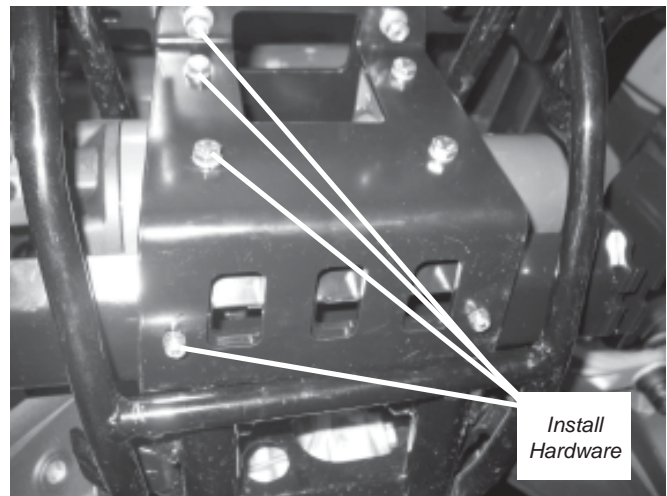

Figure 4
- Once winch and plow mount are inside vehicle frame, as shown in Figure 4, reinstall winch mounting hardware (8mm capscrews) and torque to 17 lb. ft. (22.5N-m). Next reinstall top 8mm capscrews (2) that connect top bracket to bottom bracket using the original hardware. Do not tighten at this time. Finally, install 1/4-20 capscrews (2) that connect plow mount assembly to the bottom bracket. Do not torque at this time.